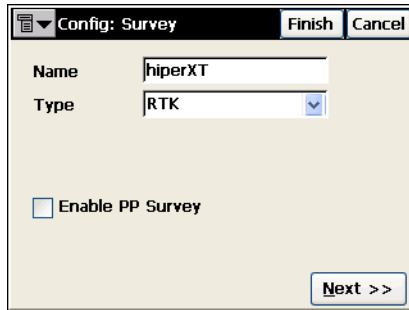

Figure 3-6. Config: Survey
2. On the *Config: Survey* screen, choose the configuration type (*RTK*, *Network RTK*, *Real Time DGPS*, *Network DGPS*, *PP Static*, *PP Kinematic*, or *PP DGPS*) and enter the name of the configuration (Figure 3-6 on page 3-5).
After naming the configuration and selecting its type, tap **Next** on the **Config: Survey** screen (Figure 3-6 on page 3-5) and continue below to finish the configuration for an RTK survey.
1. Enable logging the base and rover data by selecting the *Enable PP Survey* checkbox in the *Config: Survey* screen (Figure 3-6 on page 3-5).